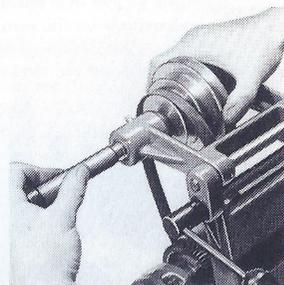

Fig. 5
b Check that the rubber bushes (11) are in position, slide the countershaft (2) through the left-hand bearing of the swing head, (facing the rear of the machine), and slip the headstock vee belt over the countershaft, slide the countershaft into the vee cone pulley, (3) which should be held between the swing head bearings with the small step on the left. See Fig. 5.